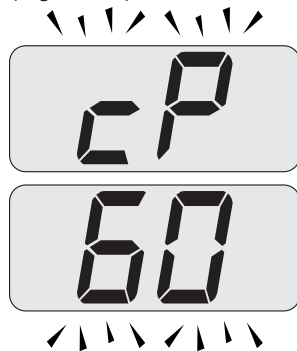

Fig. 10.18
- Press key 18 to vary the output in chimney sweep mode: when the LCD display displays the letters **cP** that alternate with the heating water temperature value (e.g.**60**), the "flue sweep function" is at maximum (eventually range rated) output in heating mode (Fig. 10.18).